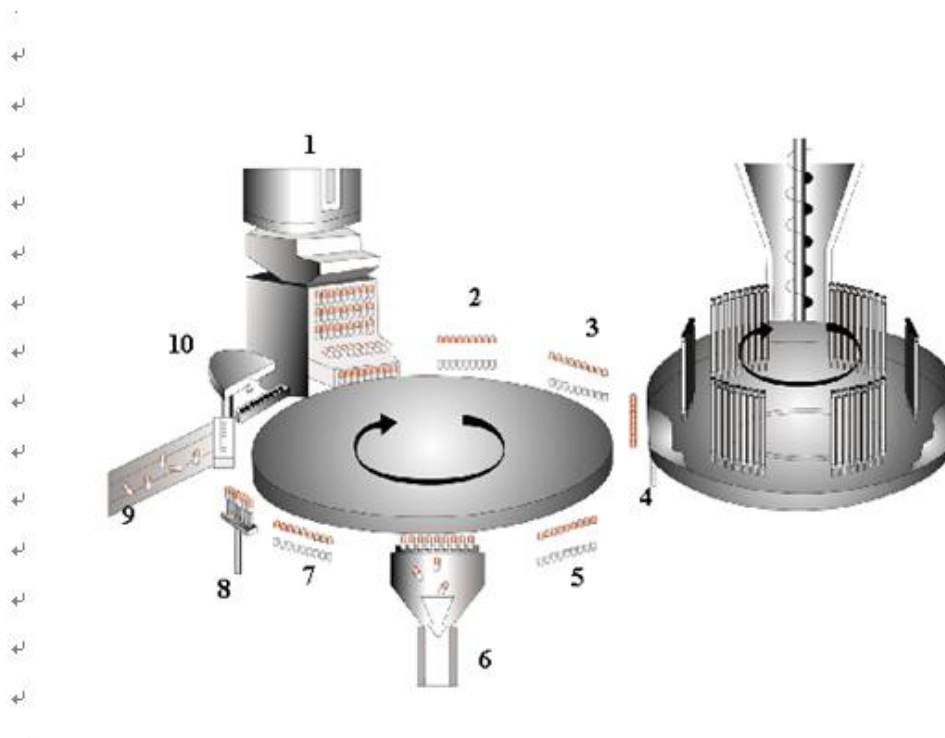

Fig. 2 Operation Route of Capsules
4. Working Principle (refer to Fig. 2, 3, 4, 5)